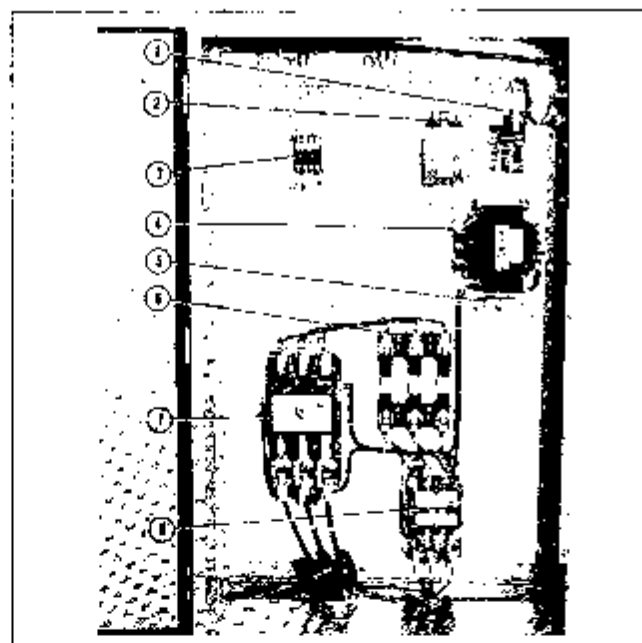

FIGURE 11
When this red light (8) comes ON it signals that the compressor is overheating (235 Deg. F.) and automatic shut-down will occur. Its function and compressor shut-down is effected by the High Discharge Temp. Switch and senders. Refer to Figures 11 and 6.
The controller (Figure 11) houses the electrical components which support starting and automatic operation. Items included in the controller will depend upon the compressor model and options. The placement of components will also vary somewhat. Figure 11 for example, illustrates the controller as used for a standard unit. Some of these items may not be included for all models. Also, the main motor starter will, for some models, be remote mounted. (Refer to Wiring Diagrams 17 thru 17G).
The high discharge temperature switch (Figure 11) functions in the compressor safety circuit to effect shut down should operating temperature become excessive (235 Deg. F.). A red warning light on the panel will light simultaneously with shutdown.
A time delay relay (Figure 11) may be provided to automatically shut down the compressor after a pre-determined delay interval, commencing when the compressor unloads at the maximum operating pressure limit. The delay interval is factory set for 10 minutes, which is the minimum setting recommended. Automatic re-start will occur at the low limit of the control range.